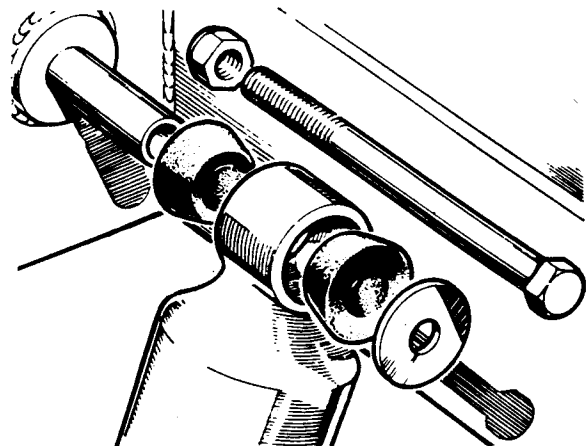

Fig J1.13
- (4) Refer to Fig J1.13. Refit the shock absorbers and tighten the fixings.